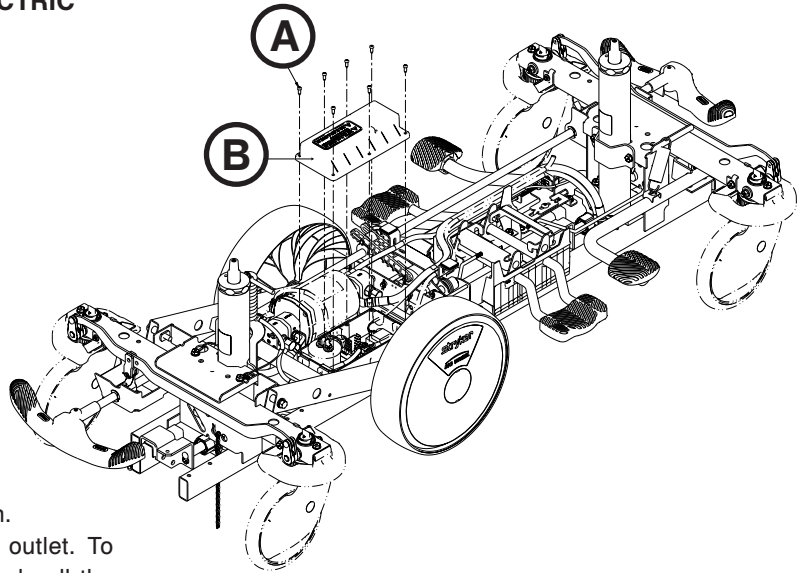

Figure 28
5. Remove the seven Phillips screws (A) that hold the power box cover (B) in place and set aside (Figure 28).